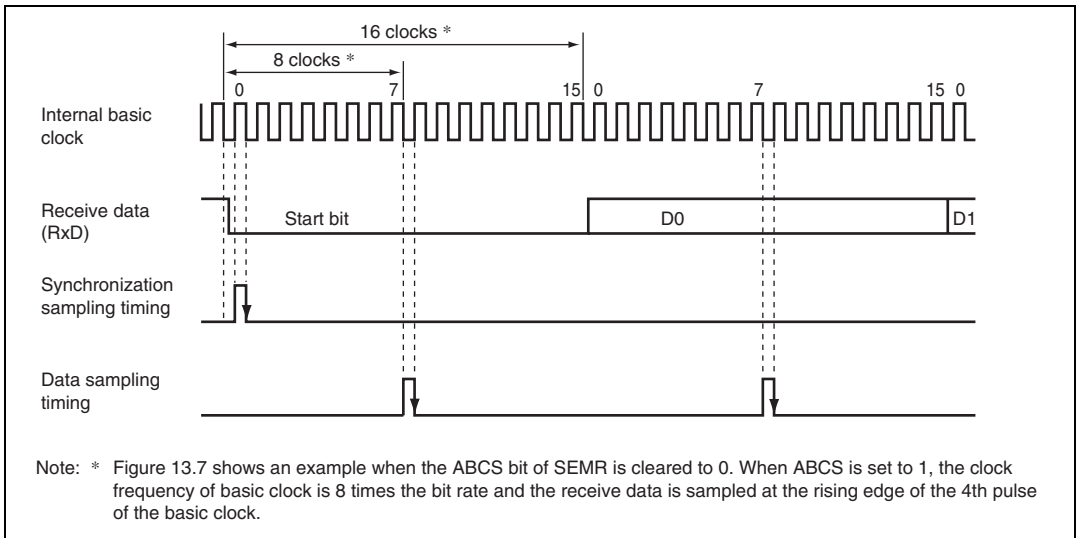

Figure 13.7 Receive Data Sampling Timing in Asynchronous Mode
In asynchronous mode, the SCI operates on a basic clock with a frequency of 16 times the transfer rate. In reception, the SCI samples the falling edge of the start bit using the basic clock, and performs internal synchronization. Receive data is latched internally at the rising edge of the 8th pulse of the basic clock as shown in Figure 13.7. Thus, the reception margin in asynchronous mode is given by formula (1) below.